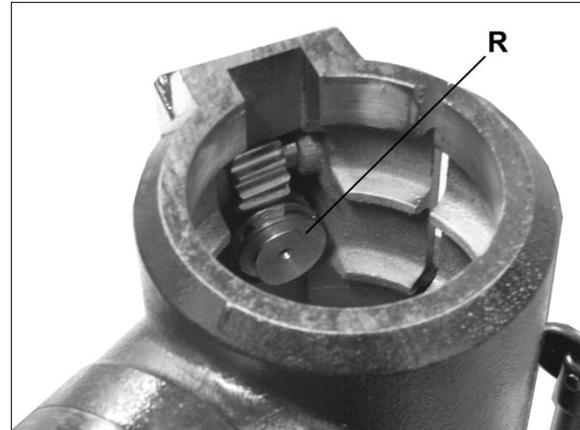

Figure 6-3
4. Insert shaft of worm (R, Figure 6-3) through table bracket hole, while meshing worm with the preinstalled gear.